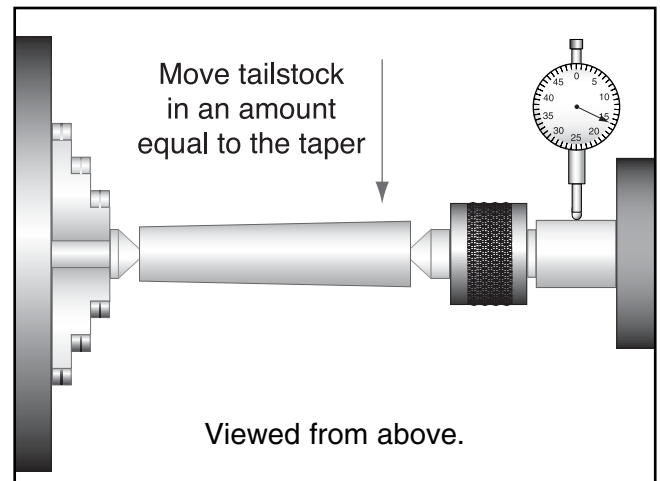

Figure 30. Adjusting for headstock end taper.
Before making adjustments to the tailstock, mount a dial indicator so that the dial's plunger is on the tailstock barrel. **See Figure 30.**
6. Measure the stock with a micrometer. If the stock is fat at the tailstock end, the tailstock needs to be moved toward you the amount of the taper. **See Figure 30.**